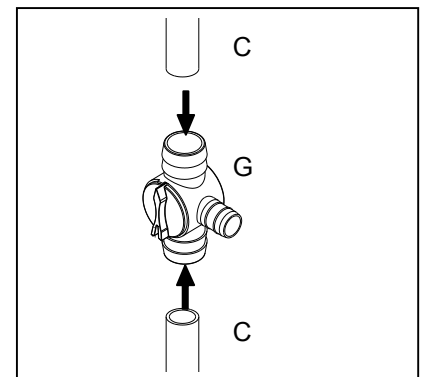

Fig. 2
2. Connect the extension tubes to the diverter valve. Make sure the arrow is pointing up and the diverter valve is connected as shown. Fig. 2